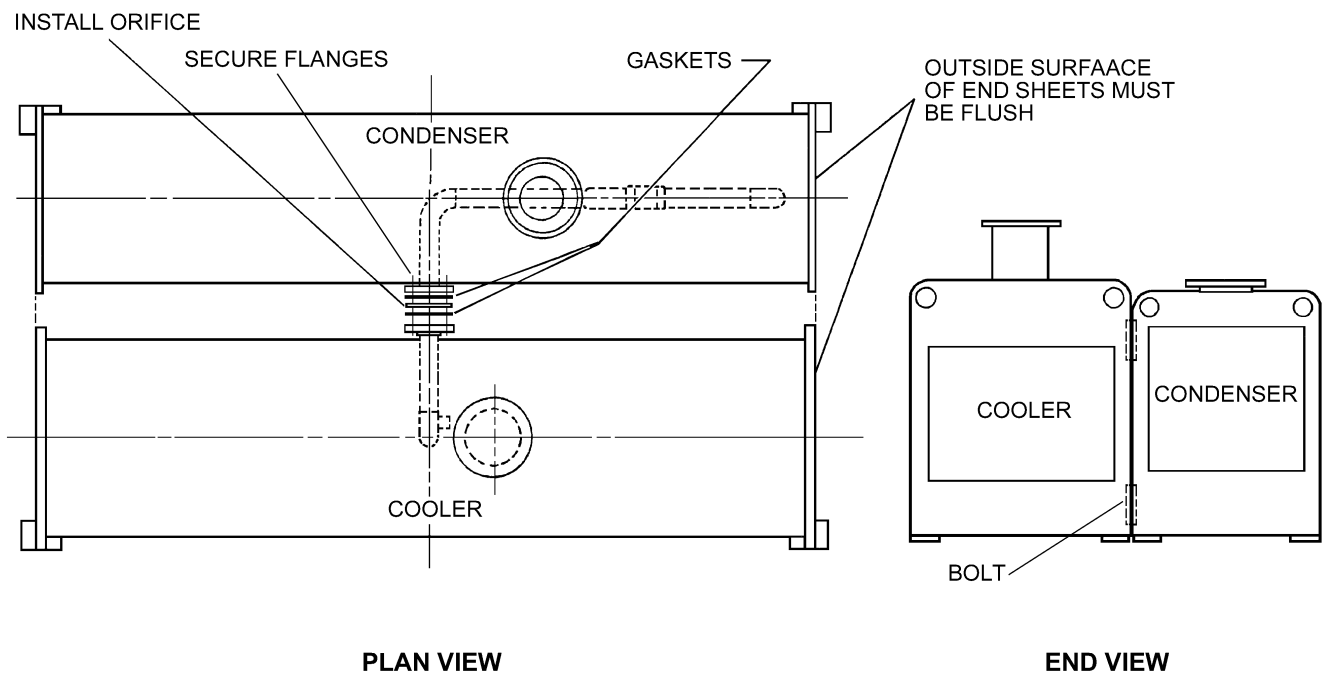

FIG. 2 – FORM 7 SHIPMENT
FORM 7 SHIPMENT (See Fig. 2)
3. Bolt tube sheets together using cap screws, lock washers and nuts. (See Fig. 2.)